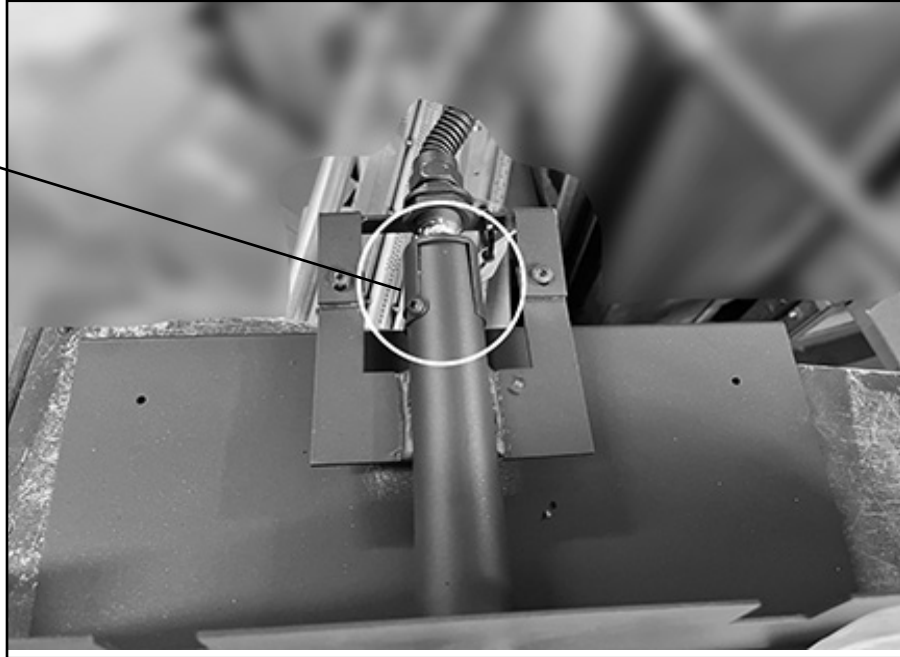

Figure 24: Shutter adjustment
1. Using a 3/16" Hex key , remove the plug from the pressure test port. The plug is located between the right side lintel and firebox side (Figure 24).